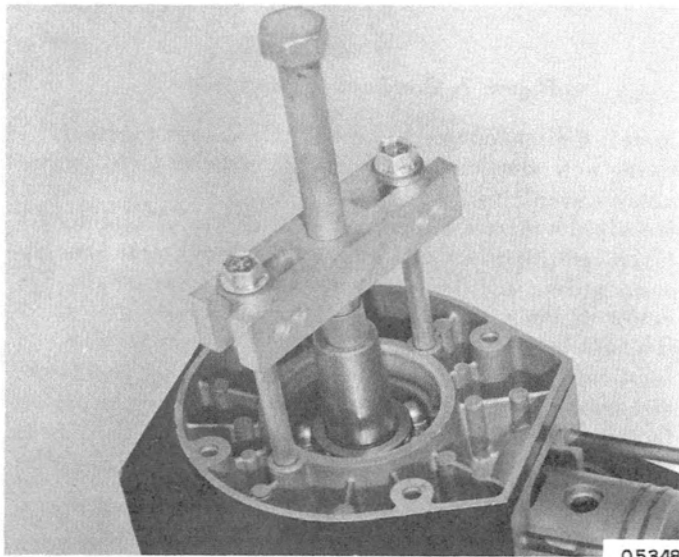

Figure 3. Crankcase Removal
10. Install Puller C-91-45660A1 as shown in Figure 3. Operate puller and remove crankcase half.